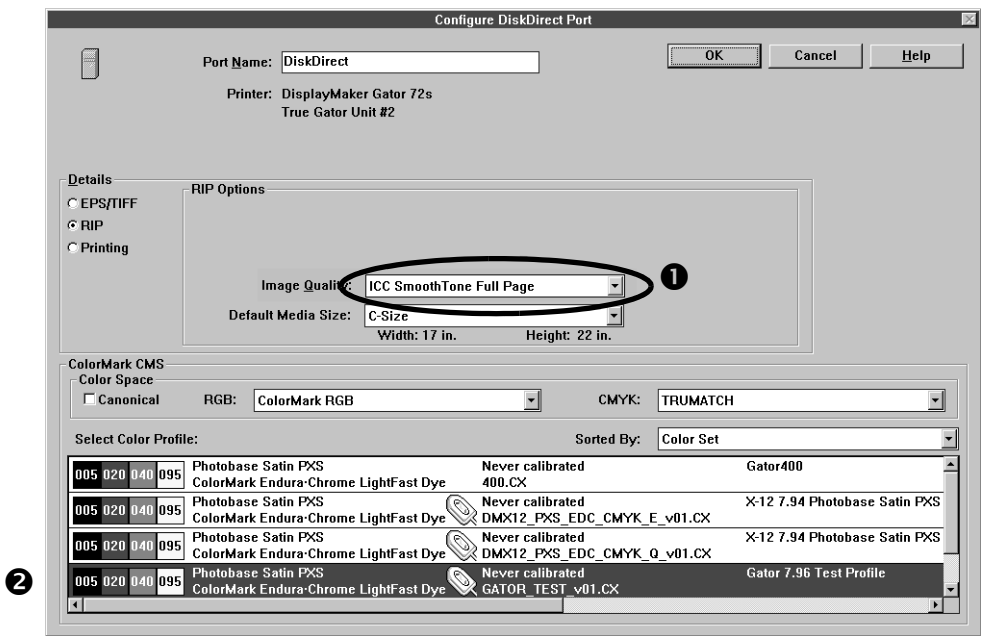

Fig. 6-10. Port configuration for ICC workflow
3. **In the Port Configuration dialog box on the ColorSpan RIP, set the Image Quality to ICC SmoothTone Full Page, ICC Mural Better, or ICC Mural Bigger. (See ❶ in Fig. 6-10 on page 6-21.)**
4. **Select the ink set and media you are using. (See ❷ in Fig. 6-10 on page 6-21.)**